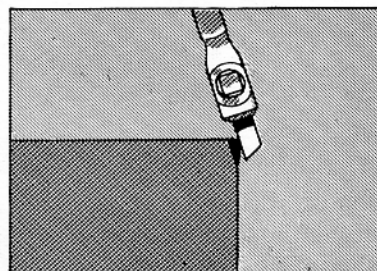

FIG. 403
1. Start the machine and move the tool with the down-feed crank until it just touches the corner of the work (Fig. 403).